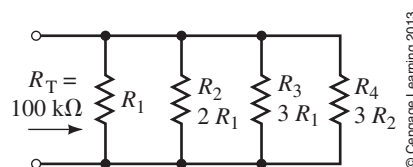

FIGURE 6–59
17. Refer to the network of Figure 6–60: